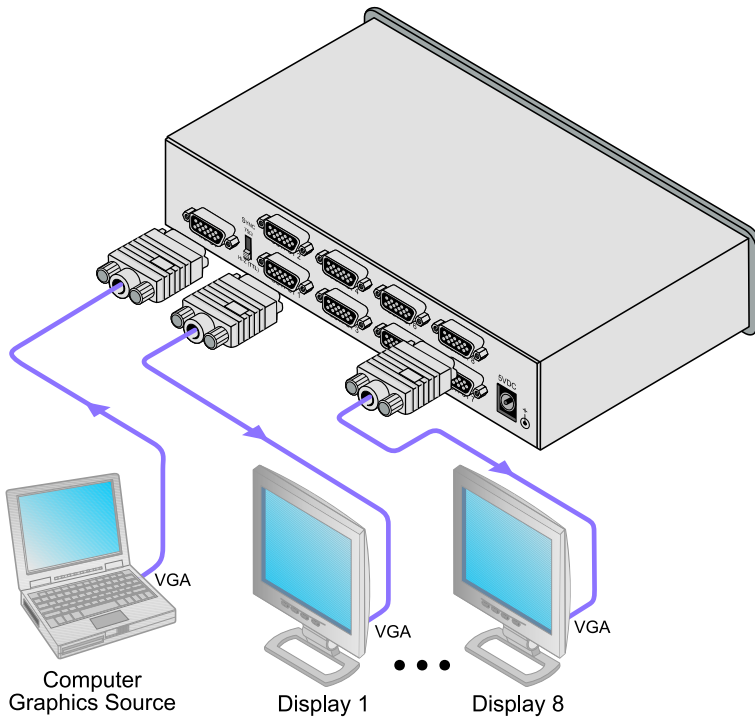

Figure 2: Connecting the VP-8K 1:8 VGA / UXGA Distributor
To connect the **VP-8K**, as the example in Figure 2 illustrates:
1. Connect a computer graphics source to the VGA / UXGA INPUT 15-pin HD (F) connector.
2. Connect the VGA / UXGA OUTPUT 15-pin HD (F) connectors to up to¹ eight acceptors (for example, displays).
3. Connect the 5V DC power adapter to the power socket and connect the adapter to the mains electricity (not illustrated in Figure 2).